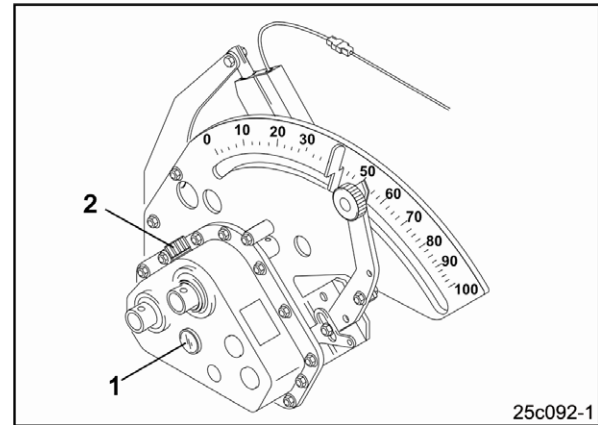

Fig. 220
2. The oil level must be visible in the oil sight glass (Fig. 220/1).
6. Fill the Vario gearbox through the oil filler neck (Fig. 220/2) up to the oil sight glass (Fig. 220/1) with transmission oil.
7. After filling close the oil filler neck with the cap (Fig. 220/2).